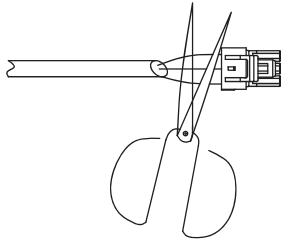

Fig. 37 — Shearing Outdoor Connector
1. Cut the connector on the outdoor unit side as shown in Fig 37.